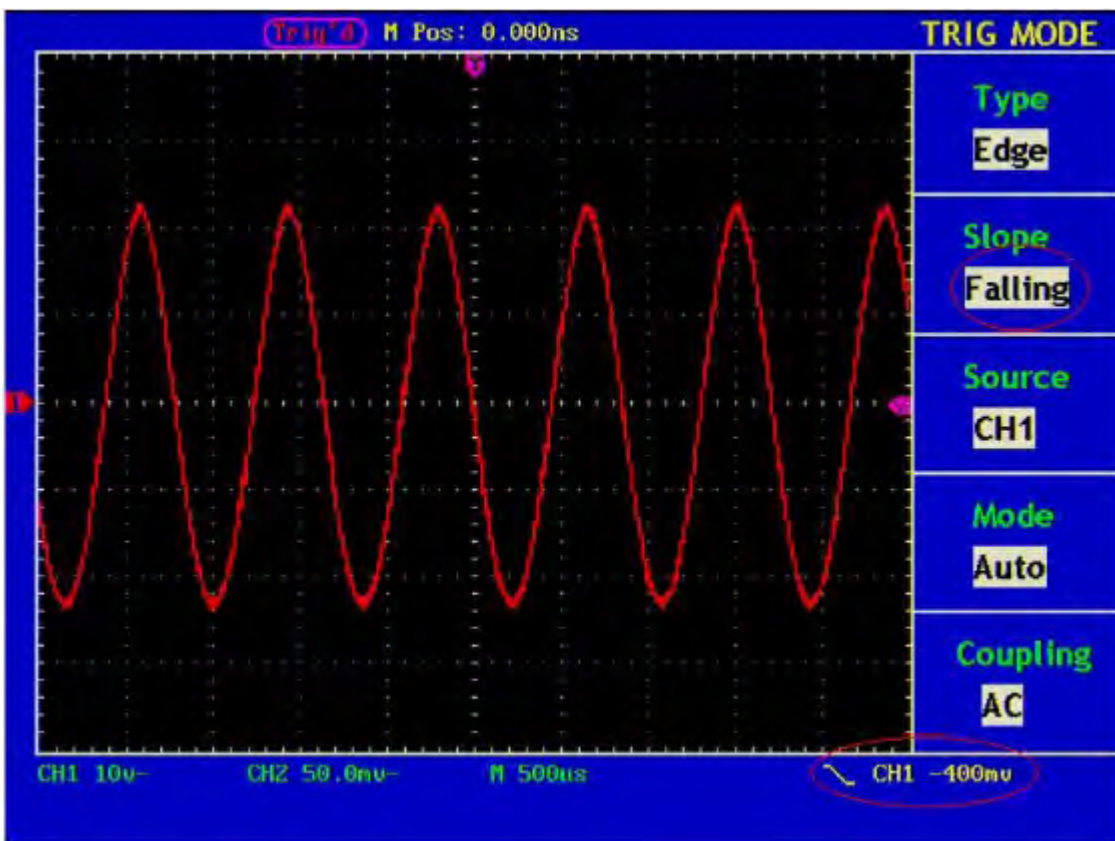

Fig. 29 Wave Form Triggered on the Falling Edge
7. Press the **F2** menu selection button again and choose Falling for Slope. For the screen display, see Fig. 29.